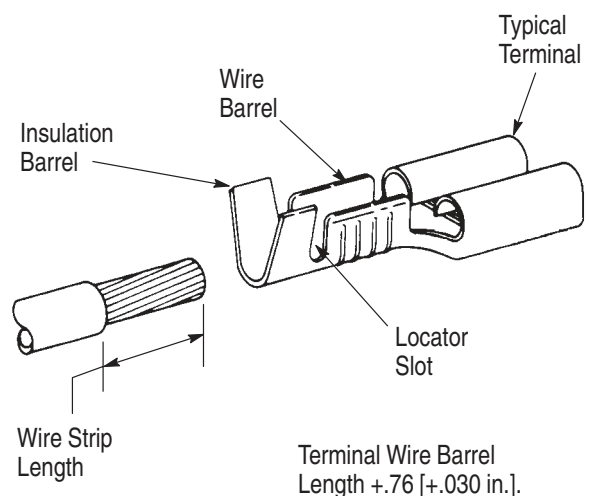

Figure 2
This instruction sheet covers application and maintenance for AMP* Hand Crimping Tool 90188-2, which is designed to crimp quick-disconnect-type terminals having open wire and insulation barrels. A typical terminal is shown in Figure 2. Read these instructions carefully before applying any terminals.
Select an applicable terminal and a wire of appropriate size and insulation diameter. Strip the wire to the length indicated in Figure 2. Do NOT cut or nick the wire strands.
1. Select the maximum size wire and strip it according to the dimensions listed in Figure 2.
2. Select the appropriate crimp section. See Figure 2.